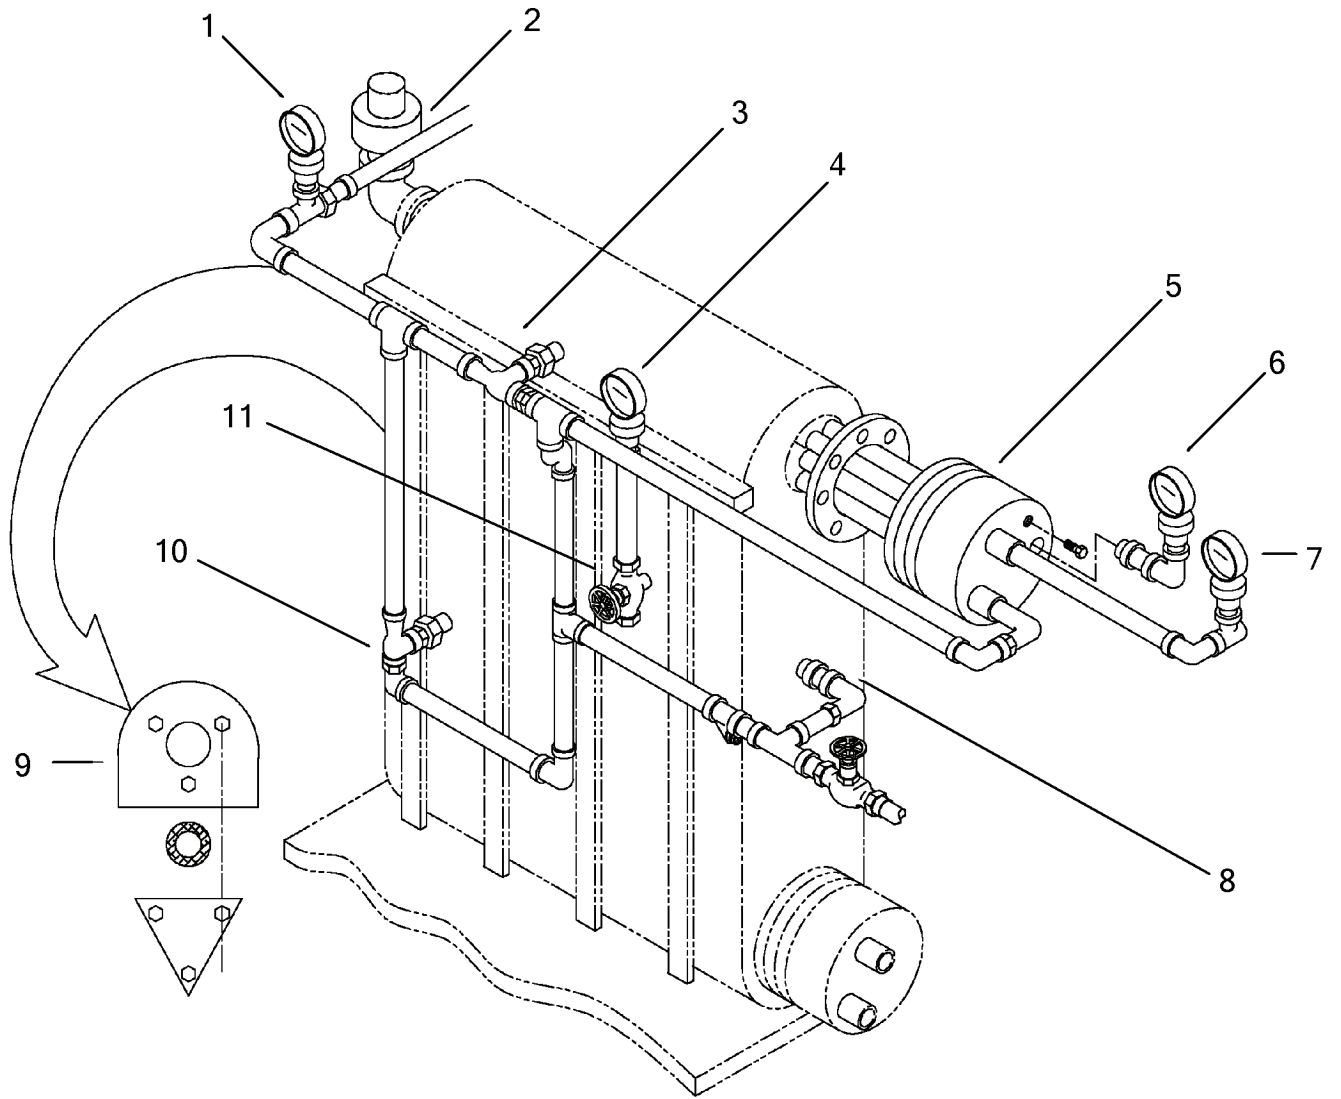

Figure 2-4. Waste Heat Evaporator Feed Water Piping Group.
- (3) Start the seawater pump (Paragraph 2-6.c) until the Evaporator fills, and the compound gauge (4, Figure 2-4) reads between 10 and 12 psig.
- (4) Secure the pump and observe gaskets, piping, sight glass and shell joints for leaks or damage.
- (3) Install a hose (approximately 3 feet long) from the vacuum release valve (11, Figure 2-4) connection to the 5-gallon container.
- (4) Open vacuum release valve (11, Figure 2-4), to release the internal vacuum.